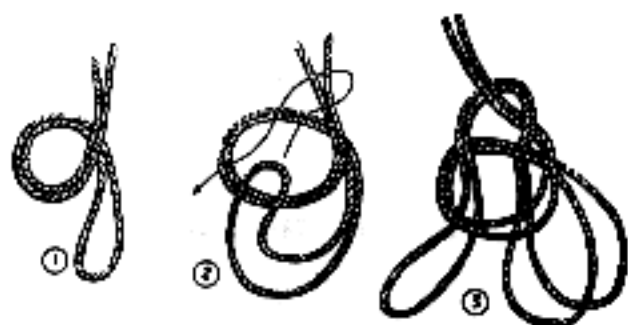

Figure 10-11. Three loop bowline
(6) Three loop bowline - Used to form three fixed loops in the middle of a rope. Rope is doubled (use bight to form knot). Double bights, secured by double loops. No half hitch, three loops same diameter (figure 10-11).